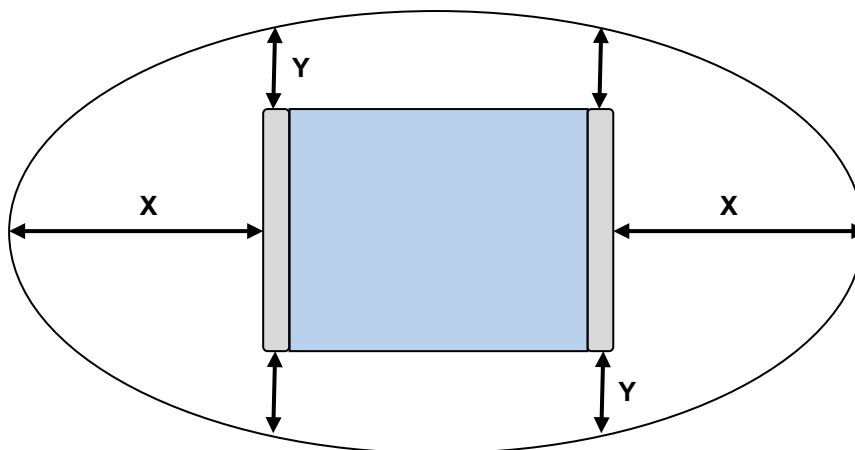

Fig. 11: Top view, detection area outside of the antenna gate
- **Note that the entire reading area of the antenna gate is larger than the three-dimensional area shown in the drawing (Fig. 11). This means there are tag orientations in which the tag can be detected outside the reading area.**